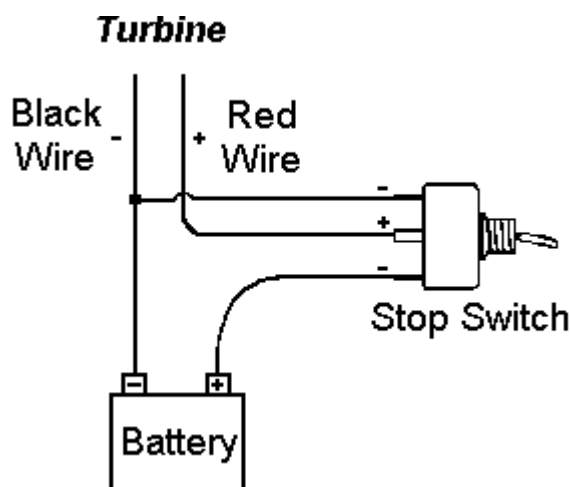

Figure 2 Stop Switch Wiring
- When performing periodic inspections, or at any time when you must approach the path of the blades, disconnect the power leads from the battery to avoid electrical shock and tie the wind turbine output leads together to stop (*slow down*) the blades from rotating. The turbine can also be shut down through the use of a stop switch. Please refer to Figure 2 on page 11 on how to install a stop switch in your system.